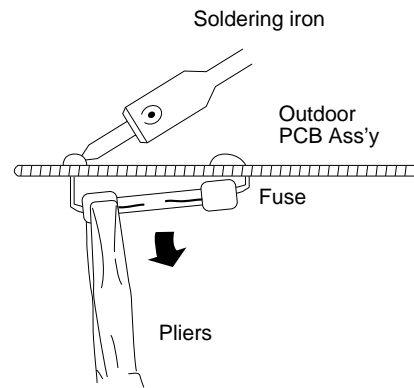

Fig. 5b
2. Pull out the fuse at the metal clasp using pliers while heating the soldered leads on the back side of the PCB Ass'y with a soldering iron (30W or 60W).(Fig.5b)